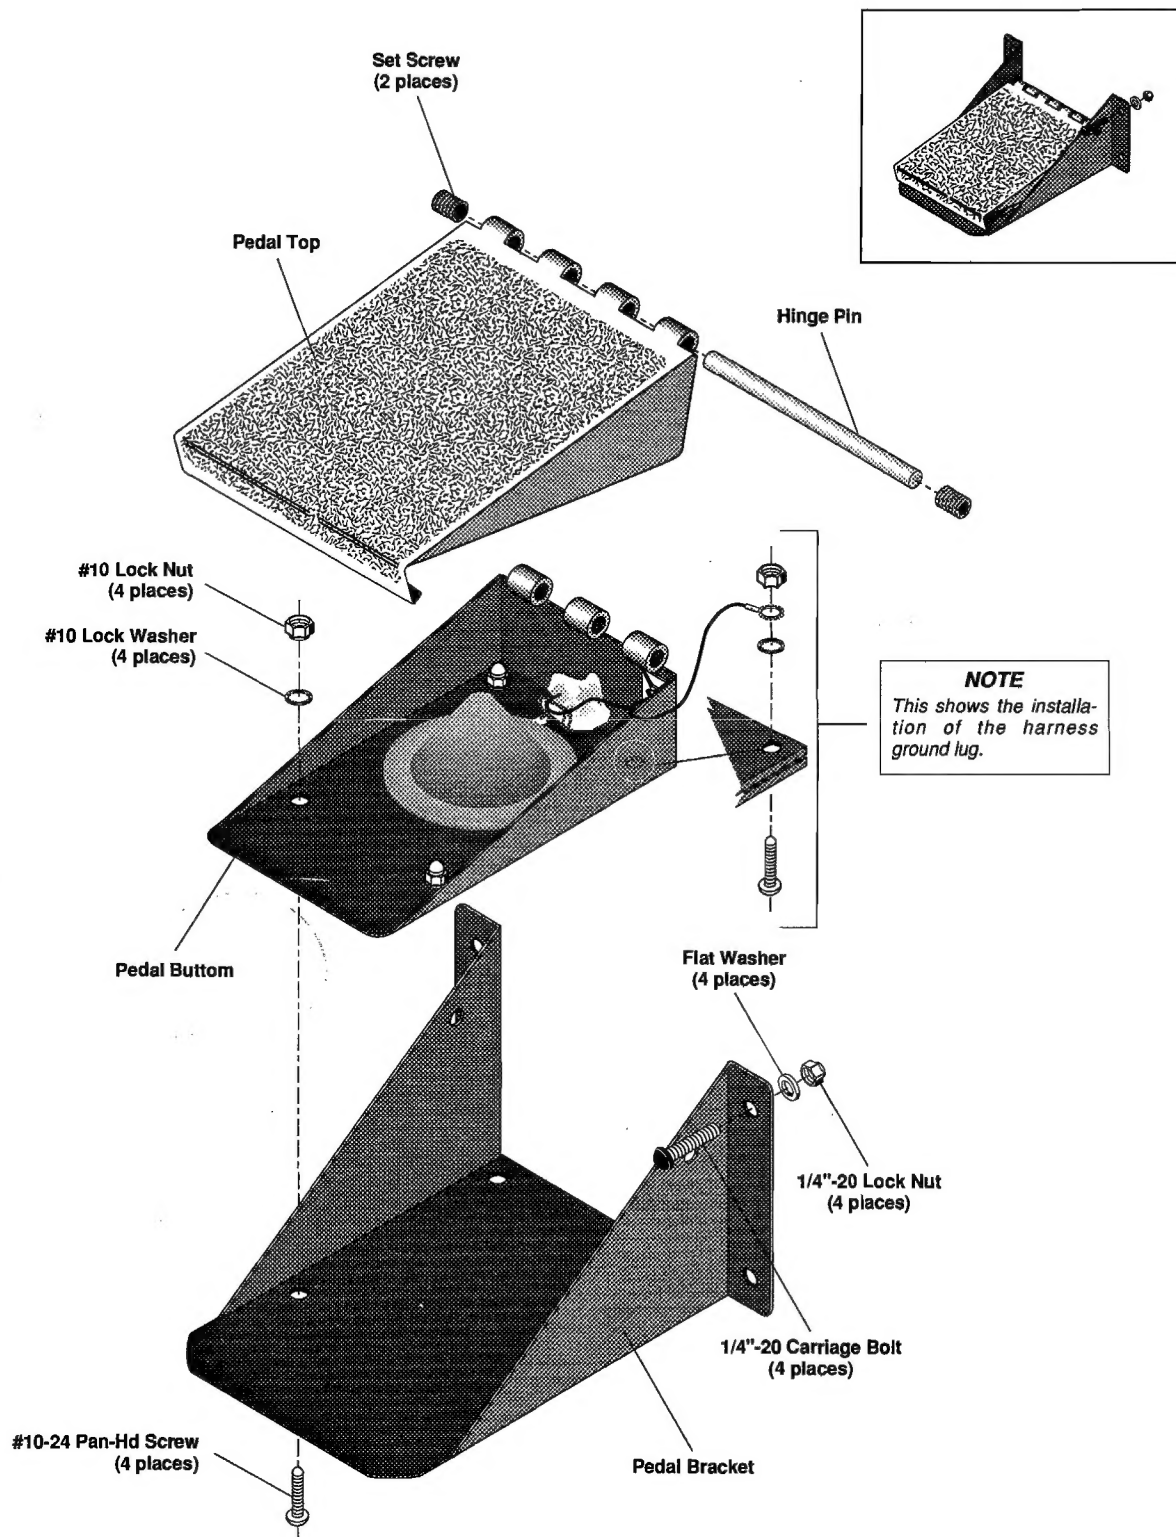

Figure 1-1 Assembling the Pedal
2. Use the #10-24 pan-head screws to attach pedal bottom to the bracket. (See Figure 1-1.) Install the lock washers and lock nuts. Put the ground wire lug between a lock washer and a lock nut on one of these screws.